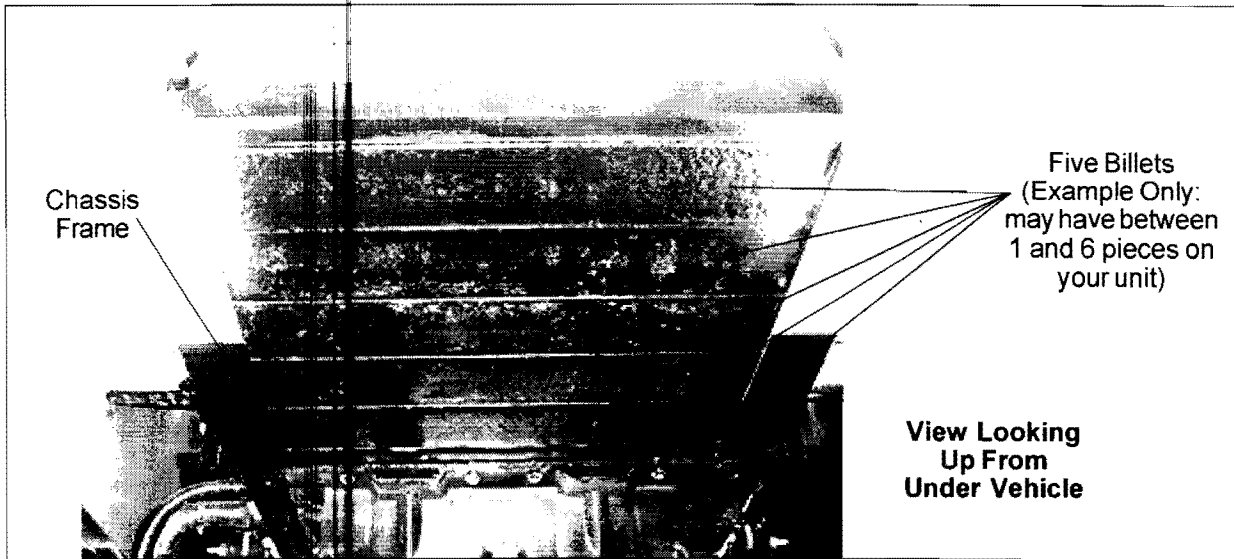

Figure 2 — Example Of Counting Billets
- Count the number of pieces of the billet steel (refer to Figure 2) and use that number to determine the correct retention kit to order.